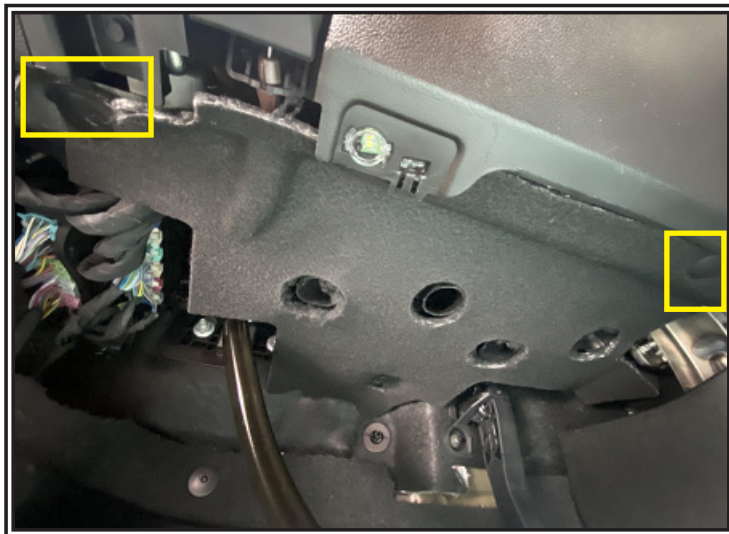

Figure 1
Step 1. Remove the two push in rivets indicated in Figure 1 in order to remove the felt foot well covering.